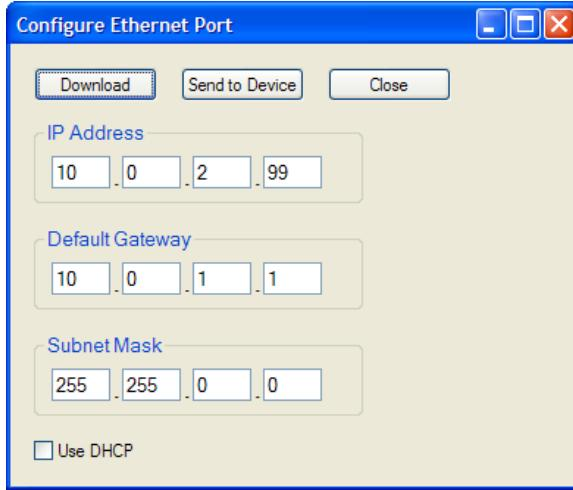

Figure 4-10. Configure - Load Share Module Screen
6. The *Configure - Load Share Module* screen appears. See Figure 4-10.